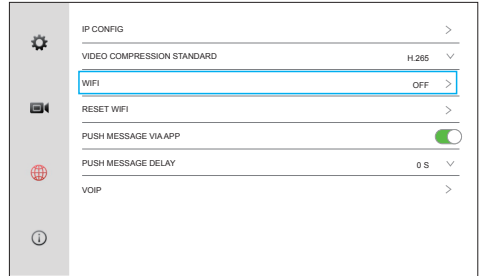

Figure 6
Step 1: Connecting to a Wi-Fi network from the mobile application. Enter the setting menu and select Wi-Fi in the network setup interface to enter the Wi-Fi setting interface as shown in Figure 6.